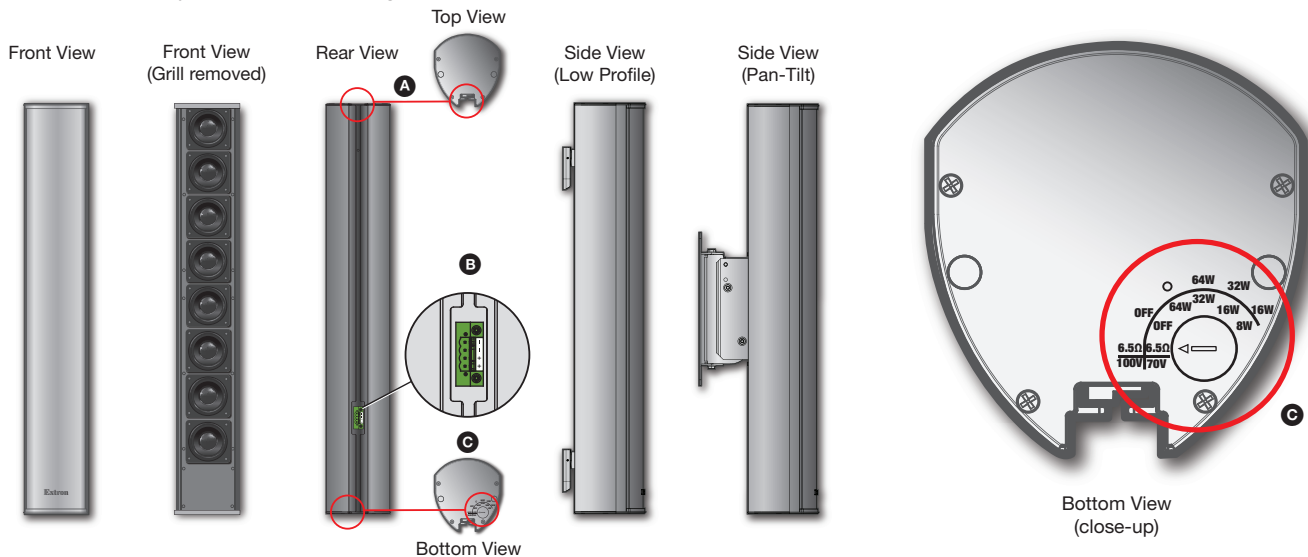

Figure 2. CA 83T Product Diagram
- A** Mounting Bracket T-slot (see figure 2) — Runs the entire length of the speaker enclosure. Carriage Bolts (for SMK LP CA 83T) or Anchor Plates (SMK PT CA) can slide in through either end to the desired locations. Secure and re-adjust if needed.